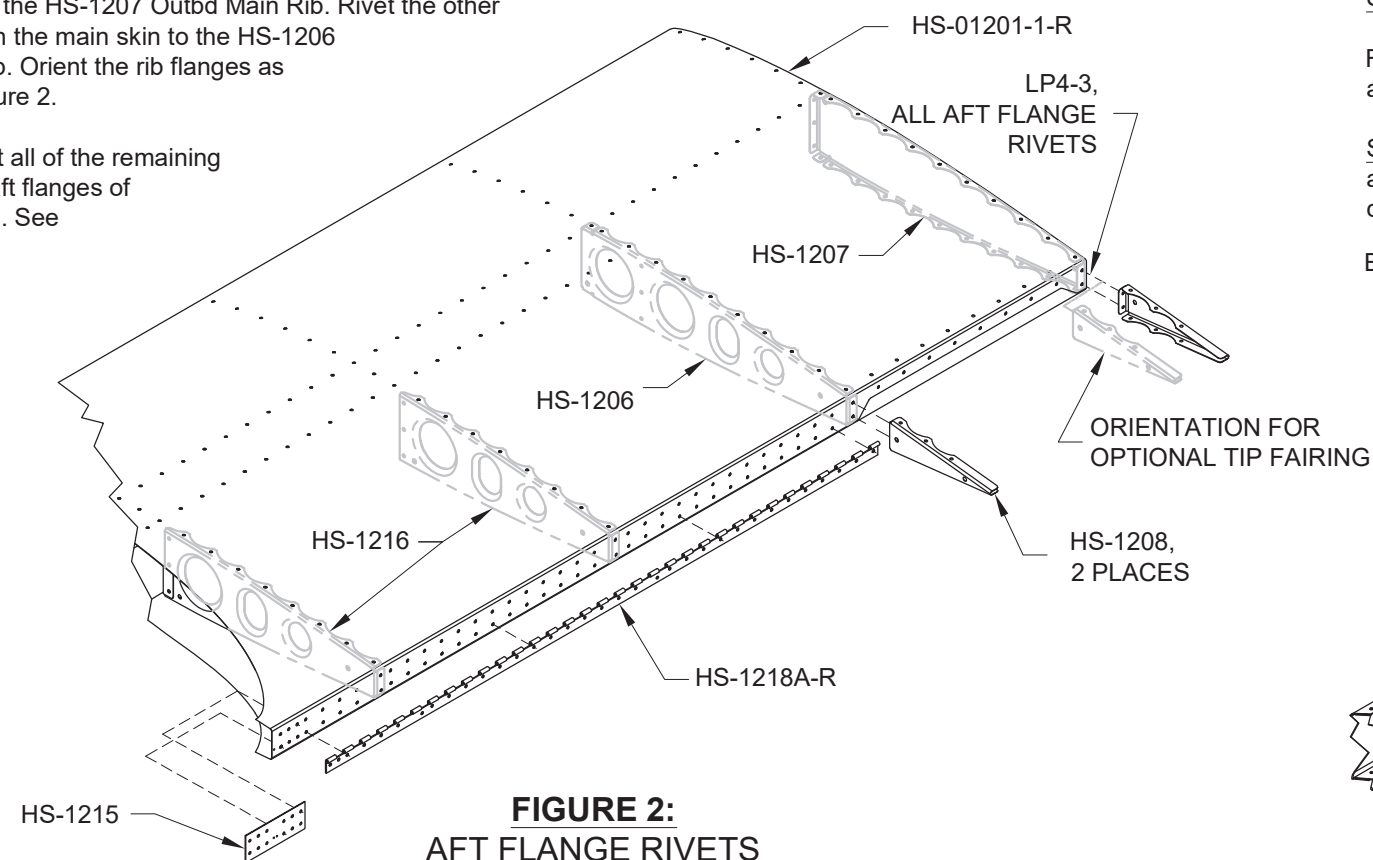

FIGURE 2:
Step 4: Rivet one of the HS-1208 Aft Ribs through the main skin aft flanges to the HS-1207 Outbd Main Rib. Rivet the other aft rib through the main skin to the HS-1206 Inbd Main Rib. Orient the rib flanges as shown in Figure 2.
Step 5: Rivet all of the remaining holes in the aft flanges of the main skin. See Figure 2.